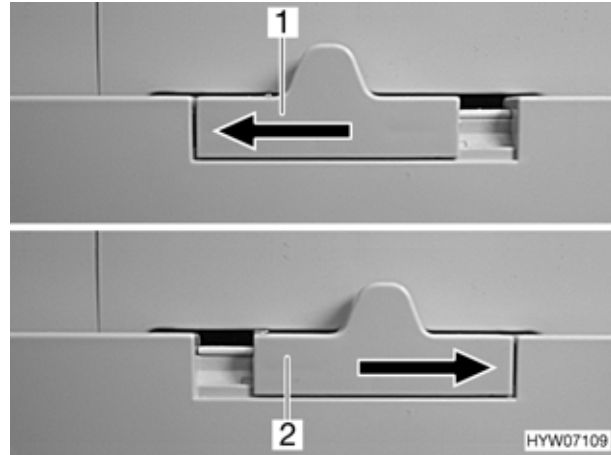

Fig. 137 Refrigerator door lock (variant 2)
- Push the lock (Fig. 137,1) to the left.
- Push the lock (Fig. 137,2) completely to the right.